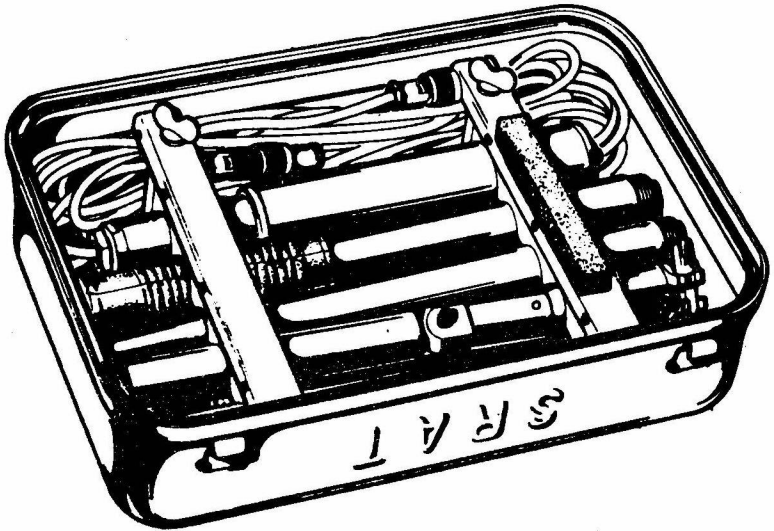

Fig. 12 -- SUITCASE LID WITH DECONTAMINATION ACCESSORIES
**248.2** The lid is designed to accommodate the accessories necessary to the decontamination operations (fig.12).